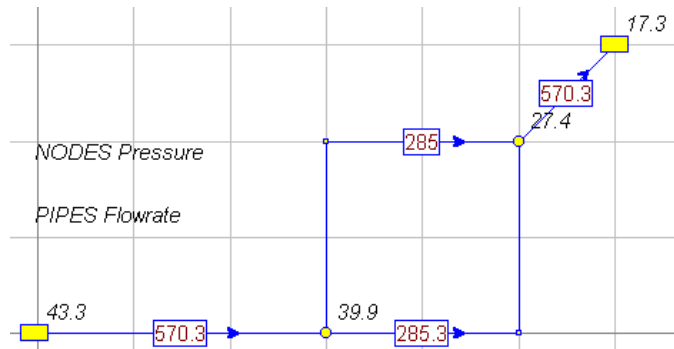

Figure 3 Case 1 - Pressure and Flow
2. Click on Labels (top toolbar) and select Pipe Results A and Node Results A to show the results parameters indicated in the Results Selection bar on the bottom right of the screen. You can click on the Results Selection bar to bring up a menu where the pipe results and node results type may be changed. A helpful selection is Loss (head loss) for pipes and HGL for nodes because it provides a very useful view of the system operation. Printouts based on these selections are shown (Figure 3 and 4).